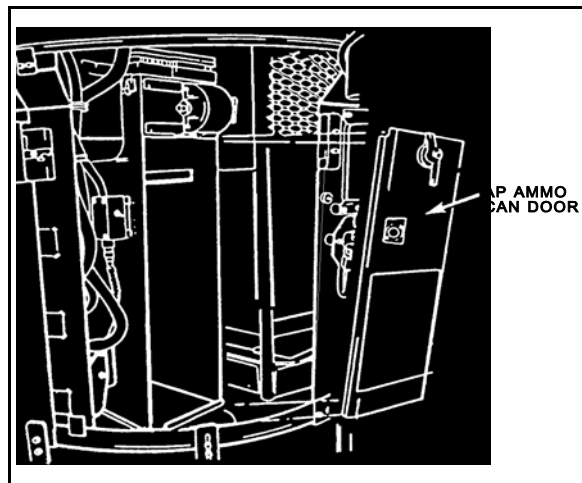

Figure 1. AP ammunition can door.
3. Open and remove the AP ammunition can door from the AP ammunition can (Figure 1).